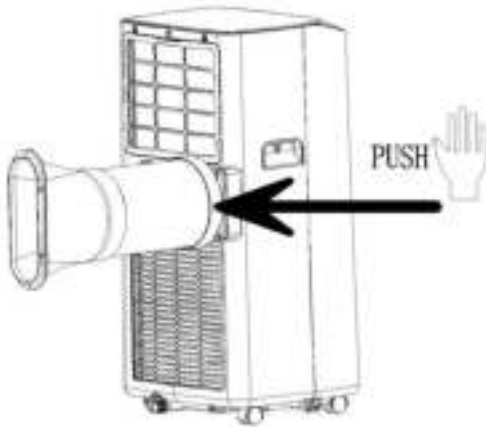

Fig.1
1. Install the heat pipe assembly (as shown in Fig.1)
- Insert the heat pipe assembly (the end of the exhaust joint) into the back panel vent slot (push to the left) and complete the assembly (as shown in figure 1).